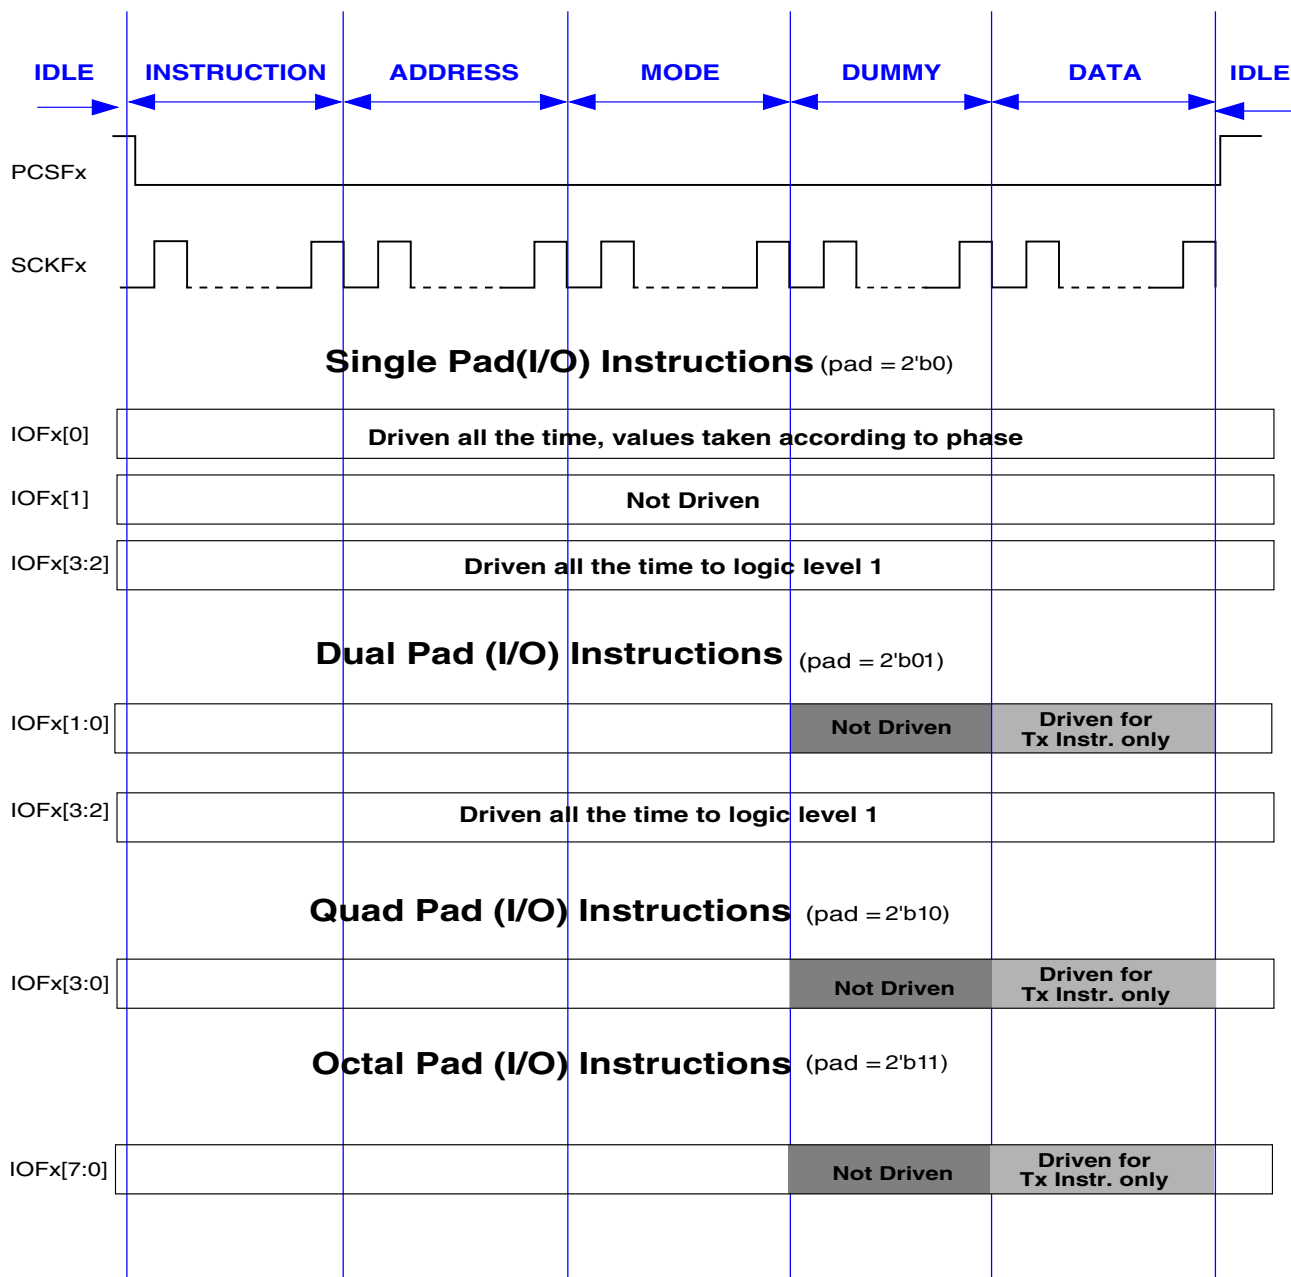

Figure 36-3. Serial Flash Access Scheme
- **DUMMY:** Dummy clocks are provided to the serial flash device. Refer to the Figure 36-3 for the IOFx signals driven. The actual data lines required for the SFM Command executed are not driven for data read commands. Note that this phase is not applicable for all SFM Commands.